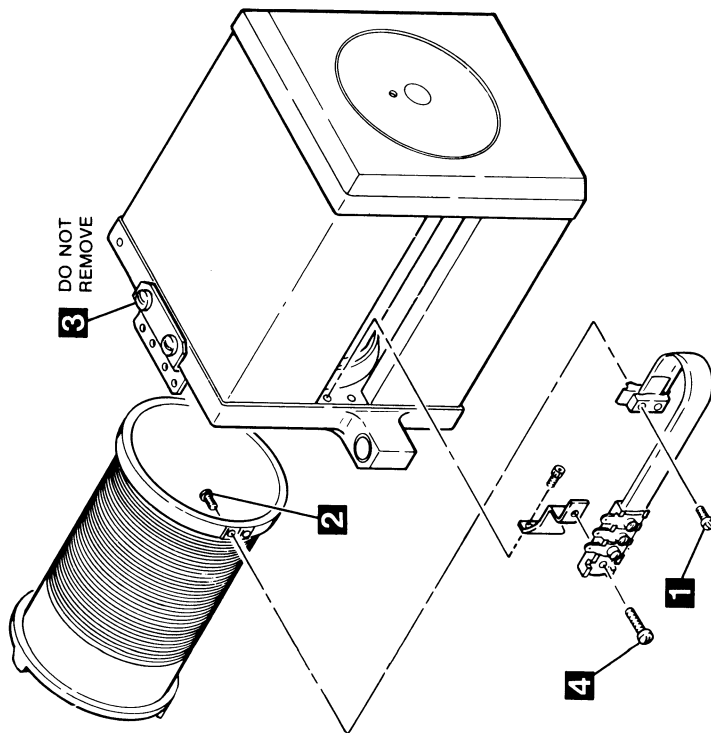

FIGURE 4-18. BOBBIN AND LINEAR MOTOR
With both linear motor and tachometer removed (refer to paragraph 4.6.7.2), replace bobbin as follows (refer to Figure 4-18):
5. Remove four screws (**2** in Figure 4-18) holding way to deck plate, and remove way from drive.